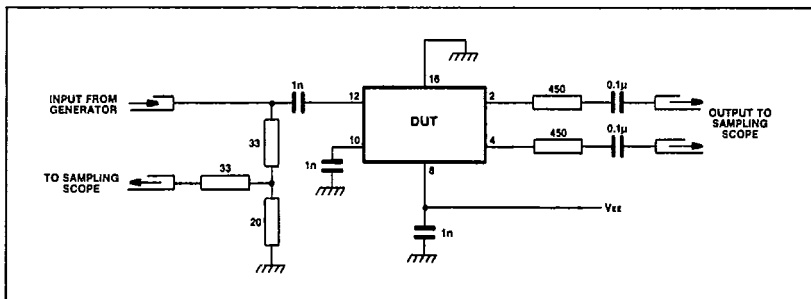

Fig.6 Test circuit
- The test configuration for dynamic testing is shown in Fig.6.